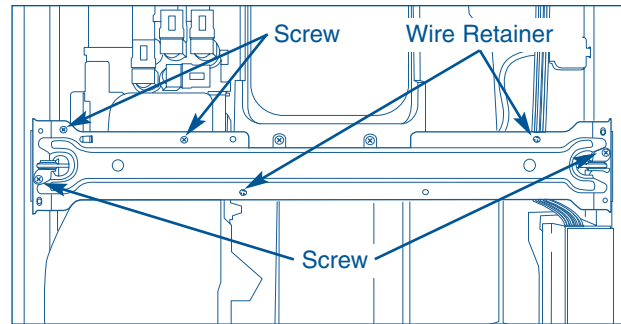

Figure 4-45.
4. Extract the two screws, one on each end securing the suspension spring mount to the top center brace. (See Figure 4-45)